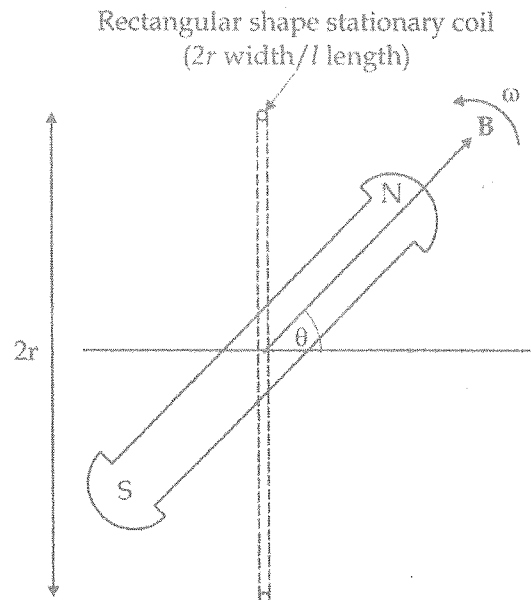

Figure Q1
c) Figure Q1 shows a static magnetic field rotating at an angular speed of ω , in the center of a rectangular shape ($2r$ width, l length) stationary coil.